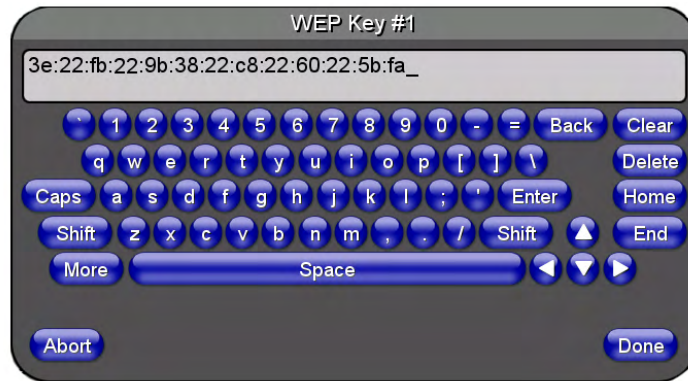

FIG. 24 WEP Key # Keyboard
- **This series of hex digits (26 hex digits for a 128-bit encryption key) should be entered as the Current Key into both the WAP and onto other communicating Modero panels by using the WEP Key dialog (FIG. 24).**
9. Write down this Current Key string value for later entry into your WAP's *WEP Key* field (*typically entered without colons*) and into other communicating panel's *Current Key* field (FIG. 24).
10. **If you are entering a Current Key generated either by your target WAP or another Modero panel**, within the *WEP Keys* section, touch the **Key #** button to launch the *WEP Key #* keyboard (FIG. 24), enter the characters and press **Done** when finished.